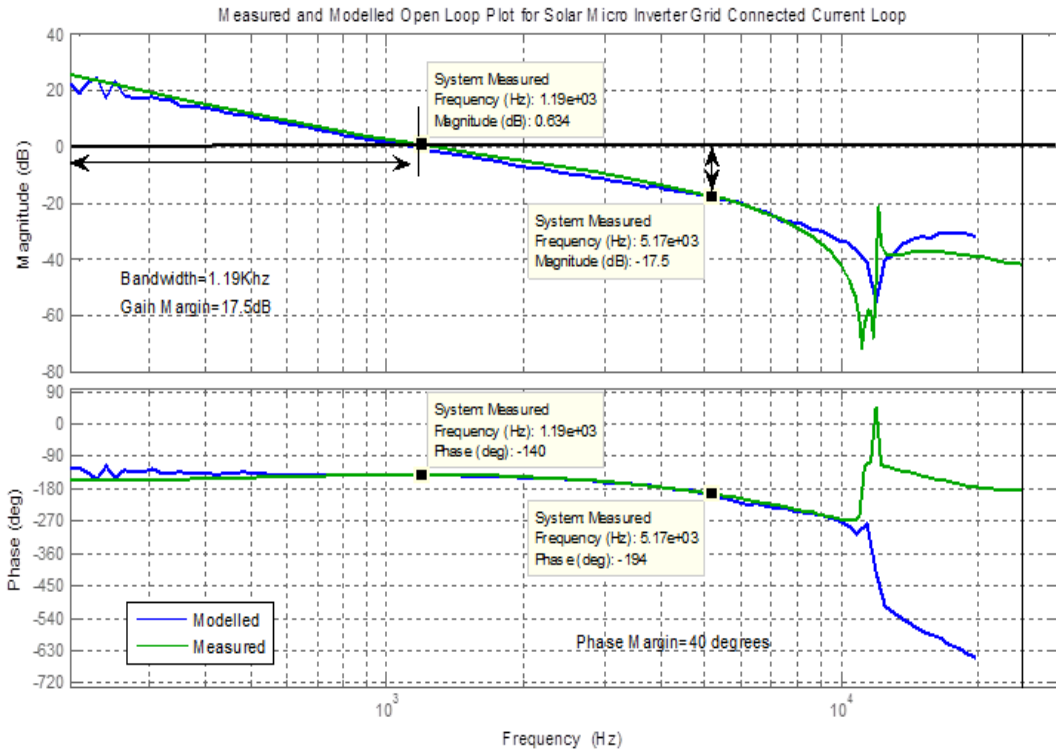

Figure 9 DC-AC inverter current loop Bode plot
The voltage control loop employs a two pole two zero (2P2Z) compensator and regulates the input DC bus voltage at the reference level V_{bus_ref} by generating the reference current command for the current loop. The current loop forces the inductor current I_L to track the reference signal I_{L_ref} generated by the voltage loop. The current controller has the form of a 3P3Z compensator. The PLL controller allows for locking the phase and frequency of the inductor current to the grid voltage V_{LN} under all conditions. The grid voltage acts as a disturbance for the current controller and a 2p2z compensator cannot track to zero steady state error for this disturbance. Hence a feedback linearization technique in current control loop to calculate the PWM duty ratios for the inverter switches Q3 and Q4 (See 2.3.2 for details). This linearization technique assumes that the current loop gain is high at the vicinity of grid frequency of 47Hz ~ 65Hz. This assumption is later validated by measuring current control loop gain as shown in Figure 9, which shows both the designed (calculated) and measured current loop gain plot. As can be seen from the plots the current loop bandwidth is about 1.2kHz and the gain at 200Hz or below is more than 20dB. A detailed description of the software algorithm is provided in the following chapters.
The loop gain Bode plot for the current loop is shown previously in Figure 9. The plot shows that the cut off frequency of the current loop is about 1.19 kHz and the system is stable with good phase margin (PM) and gain margin (GM).